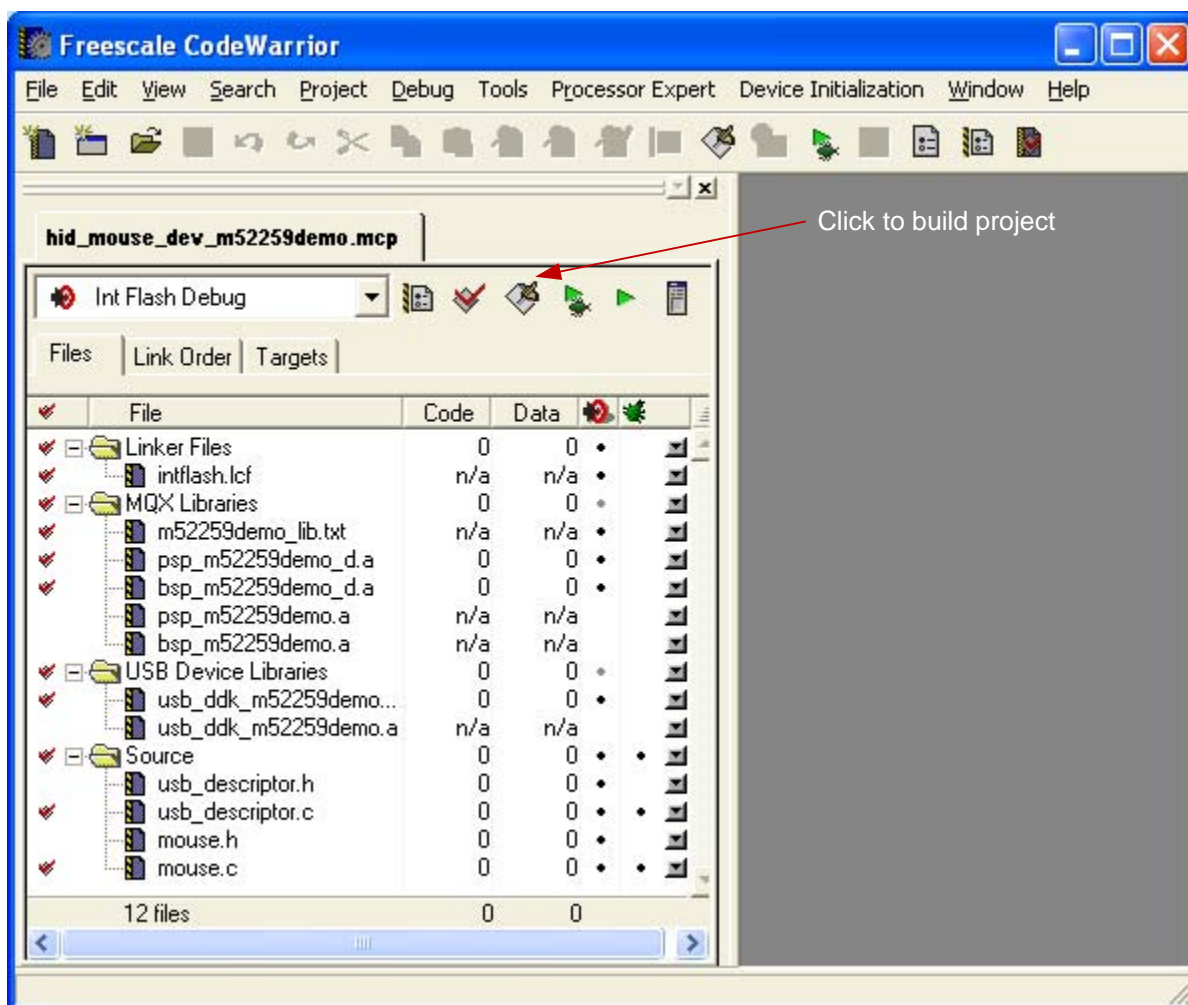

Figure A-3. Build hid_mouse_dev_m52259demo.mcp project
2. After you have opened the project, the following window appears. To build the project, click the button as shown in Figure A-3.